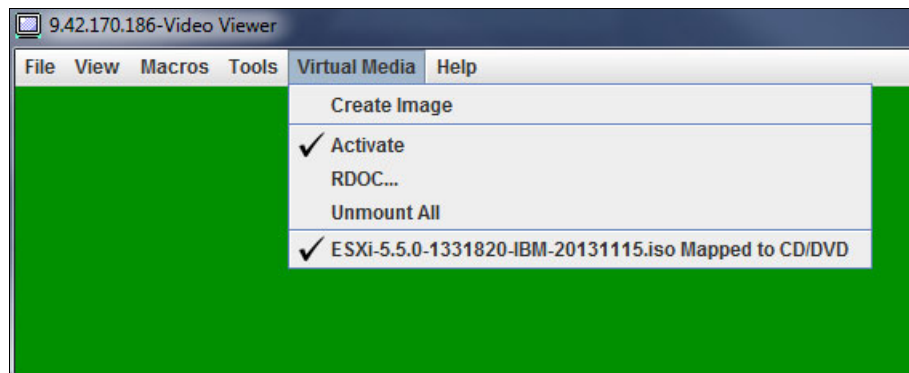

Figure 5-9 Mounted devices shown under the Virtual Media tab
8. The Select Devices to Mount panel will close, and the mounted devices will show under the Virtual Media drop-down menu shown in Figure 5-9.